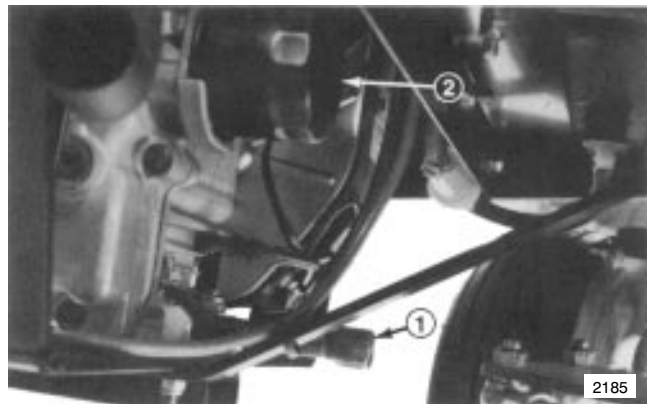

Figure 14
3. Place a pan below the oil drain. Remove the oil drain plug (Fig. 14).
2. Remove the old filter and wipe the filter adapter (Fig. 14 and 15) gasket surface.